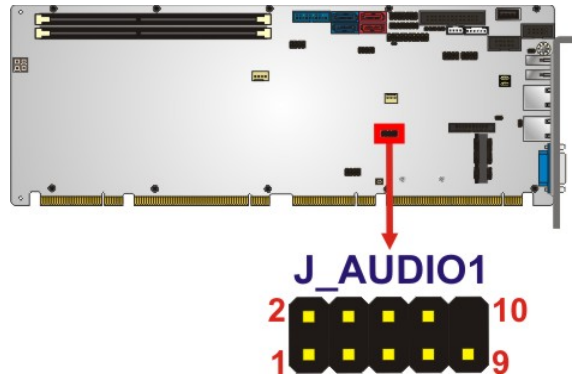

Figure 3-3: Audio Kit Connector Location
- CN Location:** See **Figure 3-3**